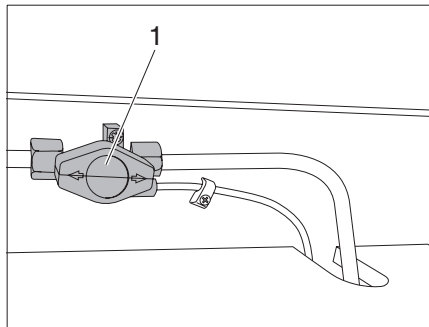

Fig. 70 Cooker's gas shut-off valve
- ▶ Before starting up a gas-powered built-in appliance, open the main shut-off valve on the gas bottle and the gas shut-off valve (Fig. 70,1).